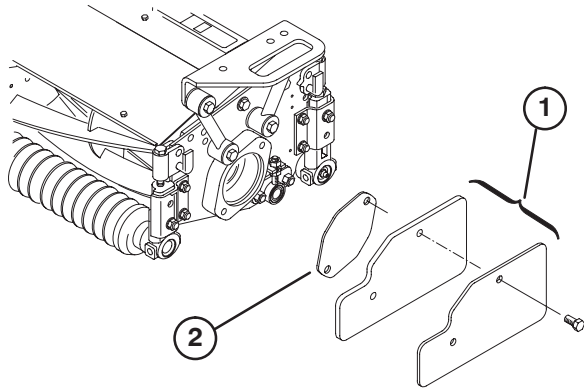
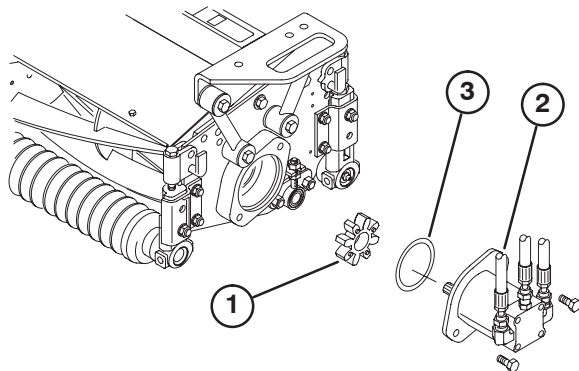

Figure 21
Figure 22
2. Remove weights and gasket (Fig. 21) from inside end of right hand cutting unit. Remove plug from bearing housing on outside end of right hand cutting unit and install weights and gasket. Locate spider coupling (Fig. 22) shipped in bearing housing.